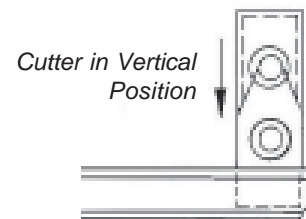

Figure 1
- 2) Begin cutting by inserting the cutter with the blades in a vertical position (see Figure 1).